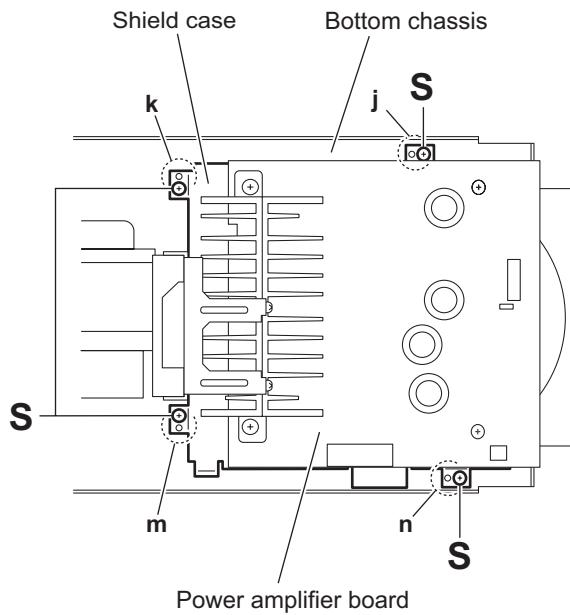

Fig.22
(See Figs.22 and 23)
- From the top side of the main body, remove the four screws **S** attaching the shield case to the bottom chassis. (See Fig.22.)
When attaching the shield case on the bottom chassis, align the projections (**j**, **k**, **m**, **n**) of the bottom chassis in the holes of the shield case. (See Fig.22.)